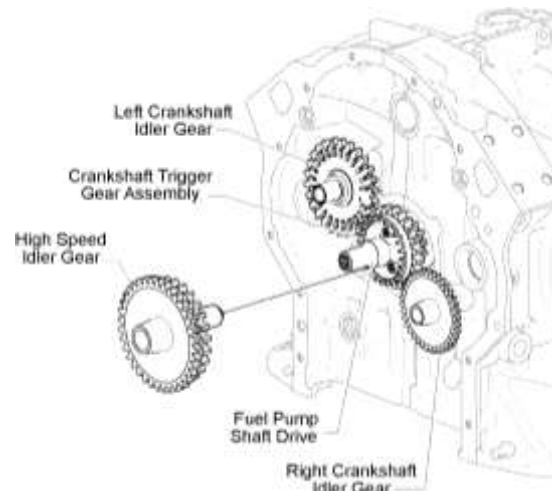

Figure 119
- P. Apply a liberal amount of engine oil to the high-speed gear pilot and install the gear in the crankcase. Make sure the teeth of the high-speed idler gear engage correctly with crankshaft trigger gear assembly (Figure 119).